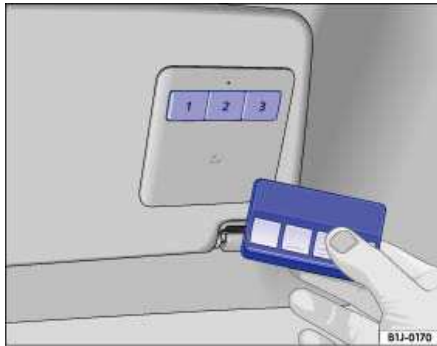

Fig. 36 In the driver side sun visor: The remote control and buttons for the HomeLink Universal Transmitter.
2. Position the hand-held transmitter for your remote control device 1–3 inches (25–75 mm) away from the HomeLink keypad on the driver side sun visor, keeping the HomeLink indicator light in view, as shown ⇒ fig. 36.